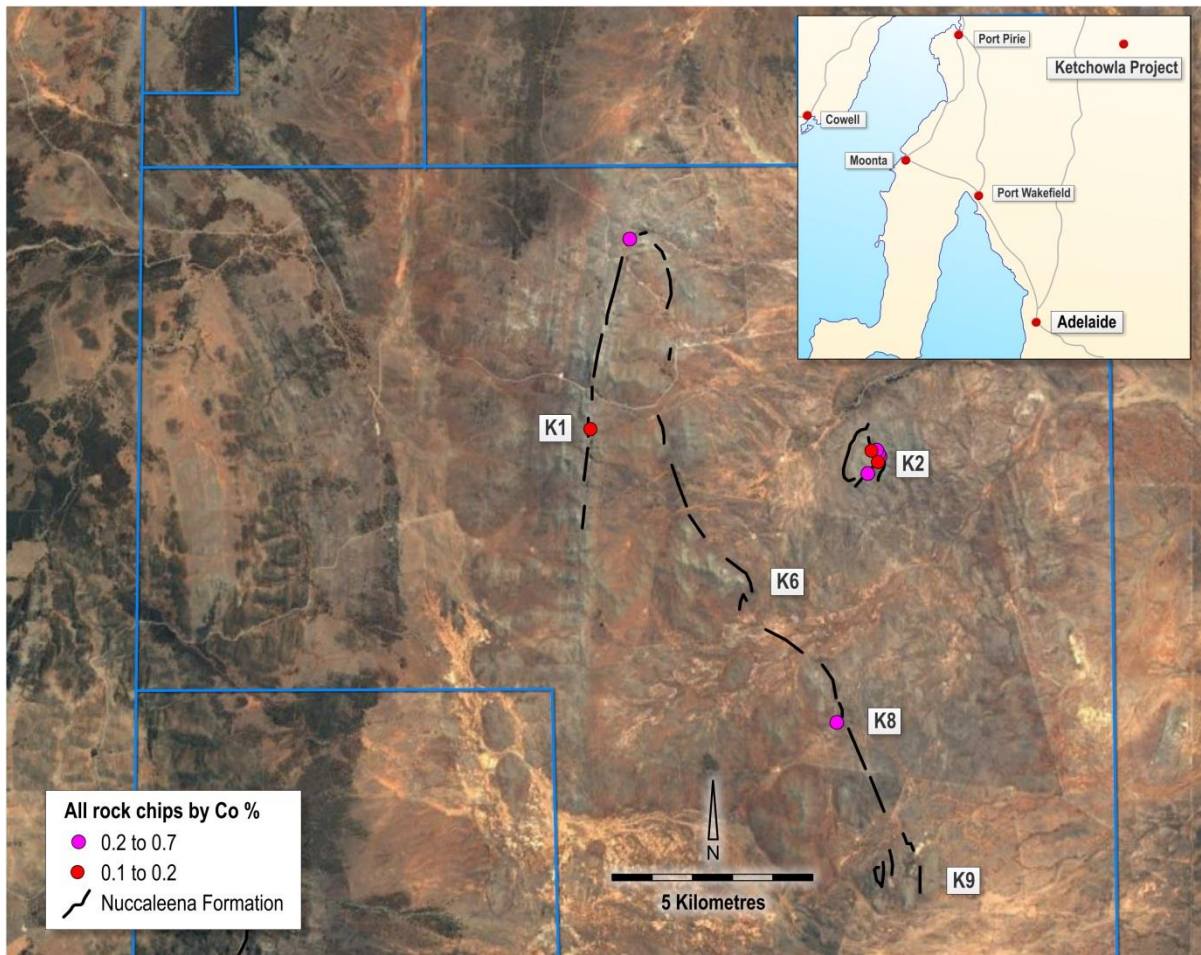

Figure 1: Location of reported rock chip samples from the Ketchowla Project.
- K1 Prospect which is centred along strike of a small historic manganese open cut mine (**Ketchowla Mine**) and located on the western limb of the main fold structure, figure 1.